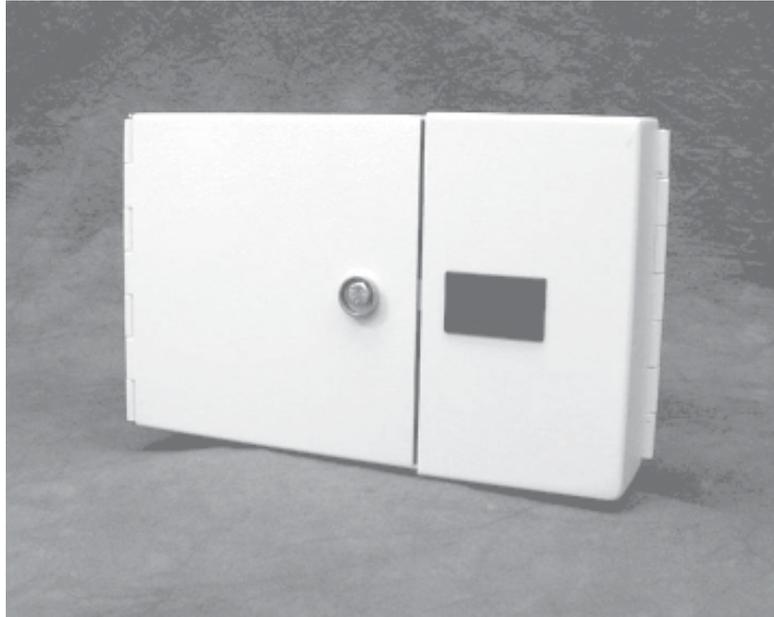

Figure 1 — WBM
2.1 The Mini Wall-mount Building Terminal (Figure 1) is a reduced size, slim-design wall-mountable distribution unit ideal for installation areas requiring compact interface terminals between intrabuilding fiber optic cable in *ribbon form* and optoelectronic equipment.